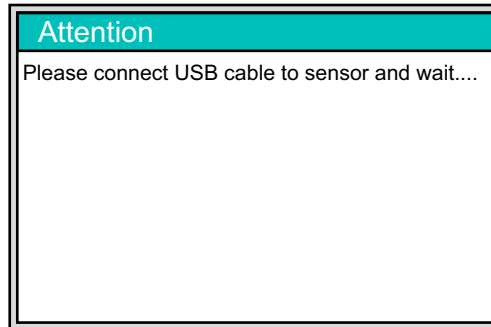

Figure 4-4. USB Connection Message
3. If the instrument is already On when the sensor USB cable is connected, an Attention message is displayed. Refer to Figure 4-4.